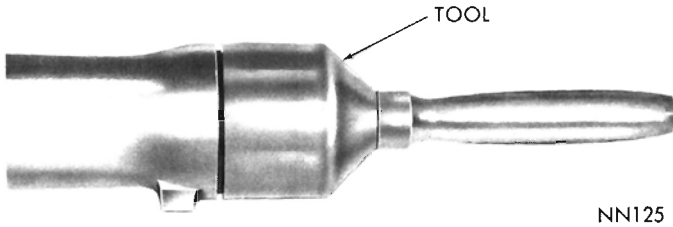

Fig. 30—Installing Extension Housing Yoke Seal
(3) To install a new seal, position seal in opening of extension housing and drive it into the housing with Tool C-3995 or C-3972 (Fig. 30).
(4) Carefully guide front universal joint yoke into extension housing and on the mainshaft splines. Connect propeller shaft to rear axle pinion shaft yoke.